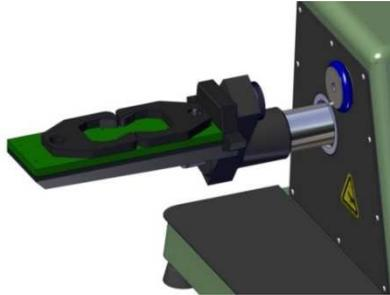

Figure 5.8.2
3. Place the left tooling jaw and tensile bridge on the top surface of tensile accessory base (Figure 5.8.2). Gently slide the bridge pin into the hole located in the center of the stationary clamp holder (Figure 7.3, Item 11).